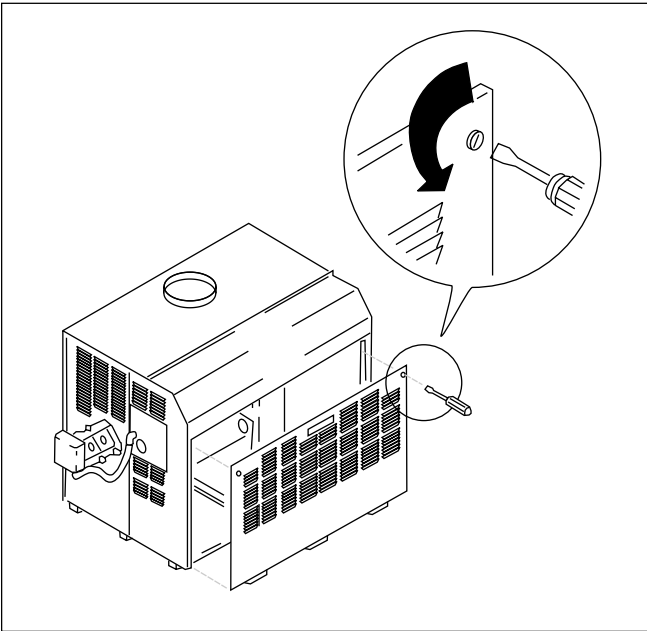

Figure 20. Lower Front Panel Removal.
- 1. Remove the lower front panel (see Figure 20).